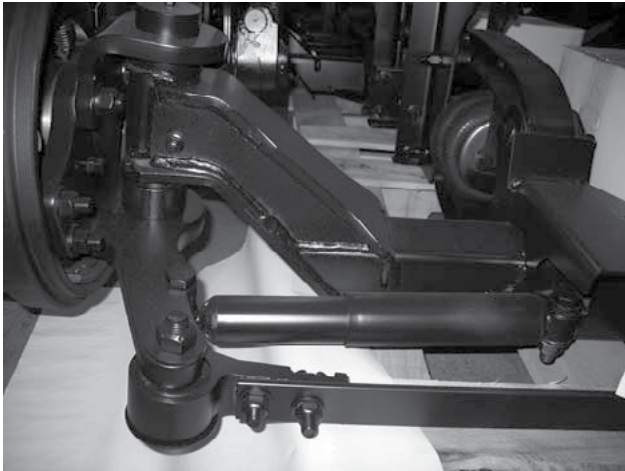

Figure 17. Knuckle Disassembly
3. Remove the tie rod assembly. (See Figure 17)